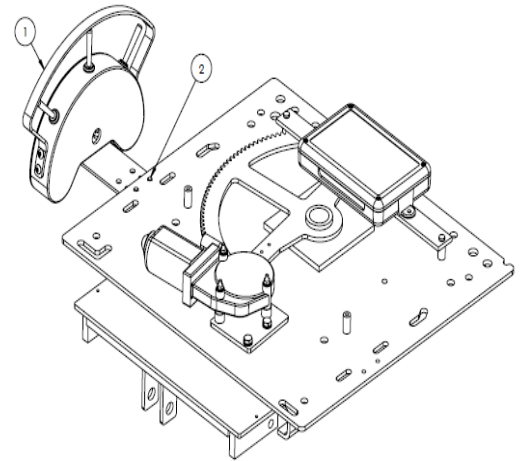

Figure 1.5
- 1.) Switch box assembly is always positioned at the inboard edge of the top plate of the transfer seat base (SEE: Figure 1.5, Page 5, front left vehicle seating position shown).
- 2.) Remove the P-clamp and (2) bolts attaching the switchbox bracket to the seat base (SEE: Figure 1.5, Page 5).
Attach the switch box (SEE: #1 in Figure 1.5) to the top plate using the provided bolts (SEE: #2 in Figure 1.5). Note that the switch box is always installed on the inboard side.
Left-front seating position shown in Figure 1.5.